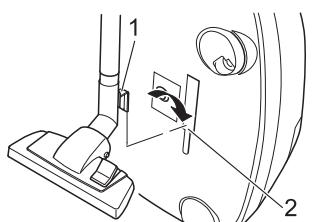

Fig. 17
- To **store the vacuum** cleaner you can hook the park/storage hook (Fig. 17/1) into the storage (Fig. 17/2) bracket on the bottom of the appliance.